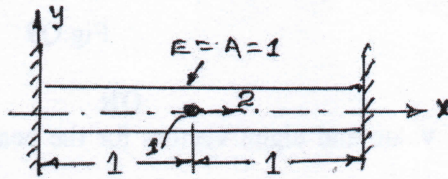

Fig.Q2
2. The potential energy for the linear one dimensional rod as shown in Fig.Q2 with body force neglected is $\pi = \frac{1}{2} \int_0^2 EA \left(\frac{du}{dx} \right)^2 dx - 2u$ where $u_1 = u(x=1)$. Solve it by Galerkin's approach. (16 Marks)